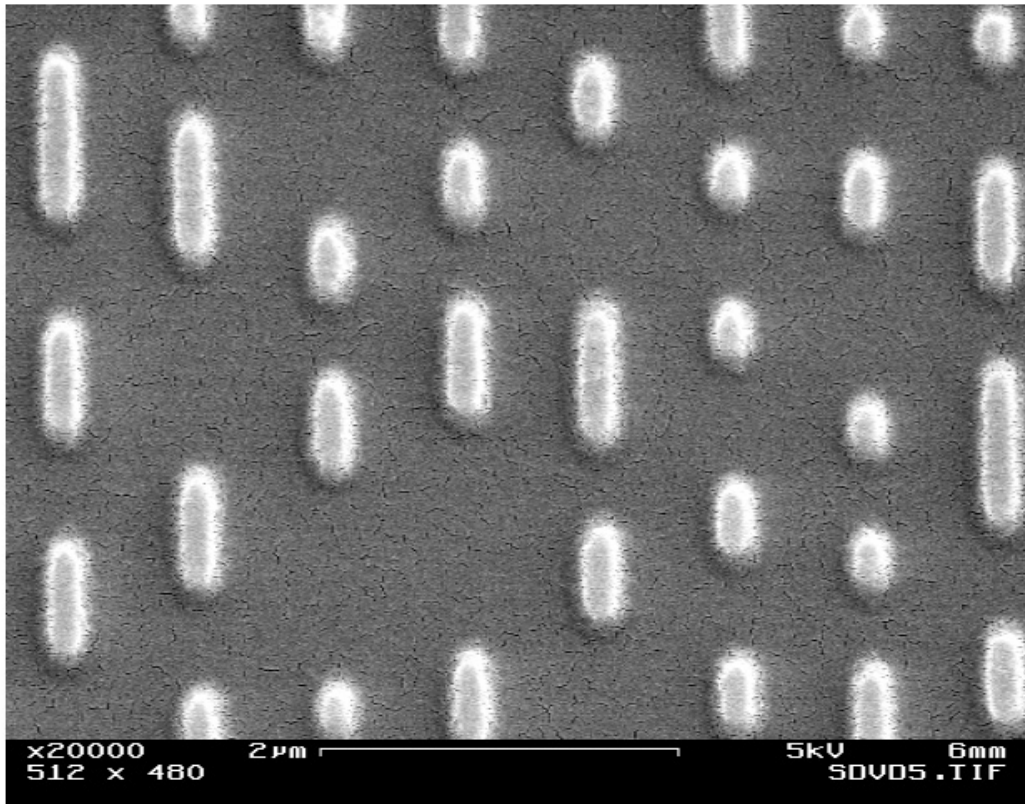

Figure 4: SEM image of a DVD. The lighter features are pits. Note the scale.
- A quantitative comparison between your experimental value and a value you found using Figure 4 in Appendix A